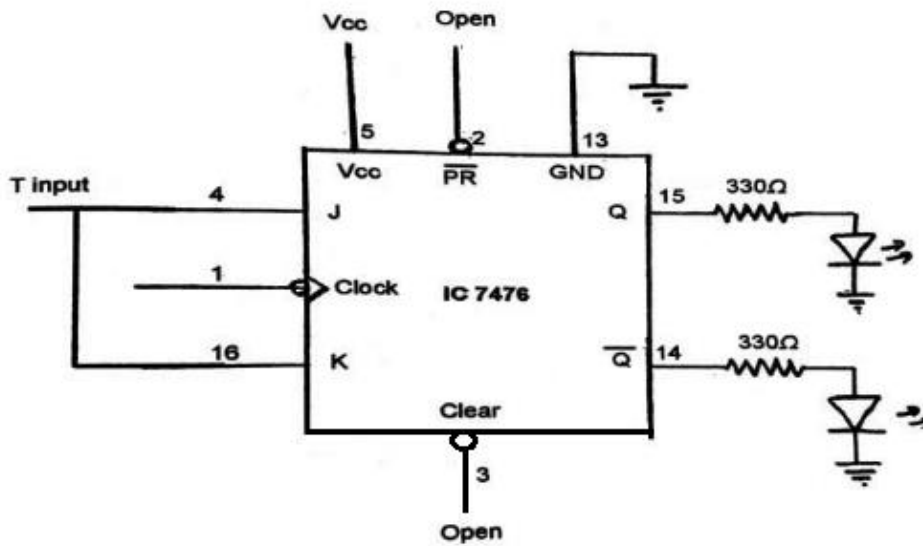

Figure 11.7 Circuit diagram of T flip-flop using IC 7476
6. Make the connections to convert JK flip flop to T flip flop as per the circuit diagram given in Figure 11.7.